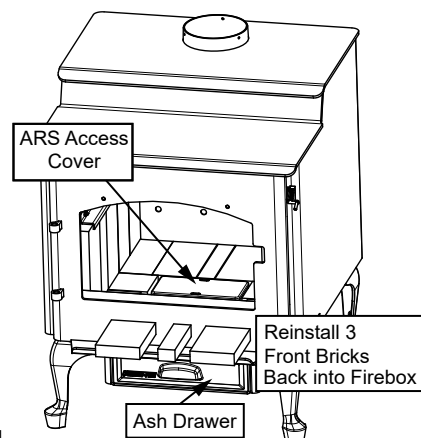

Figure 21.4
1. Replace 2 front bricks that were removed (**Figure 21.4**).
3. Install ARS access cover inside of ARS Channel that is located inside the firebox (**Figure 21.4**).